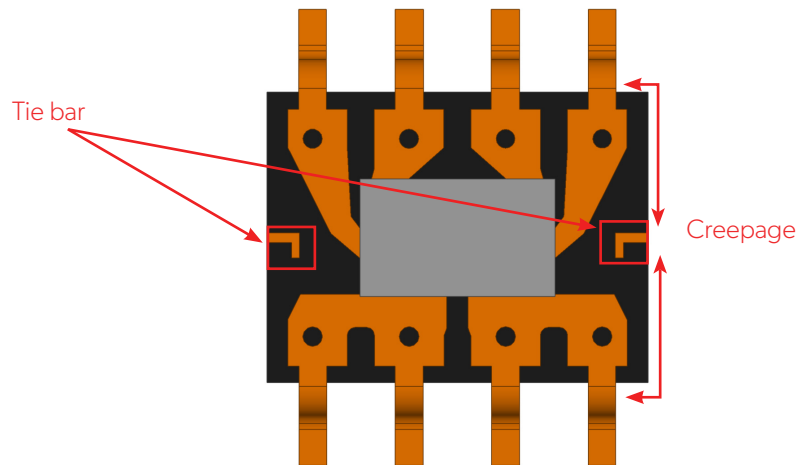

Figure 3: Creepage path in JEDEC packages
**Creepage ( $D_{CR}$ ):** Creepage is the minimum distance along the surface of the package between the IP loop and the other pins. The path may not count any surface features less than a fixed size (1 mm for pollution degree 2) and cannot count distance across unconnected metal which could act to short out the distance. The shortest distance from input to output on a sensor is typically around the end of the package; the shortest path intersects a piece of floating metal used in the production process called a tie bar, which must be jumped over (refer to Figure 3).